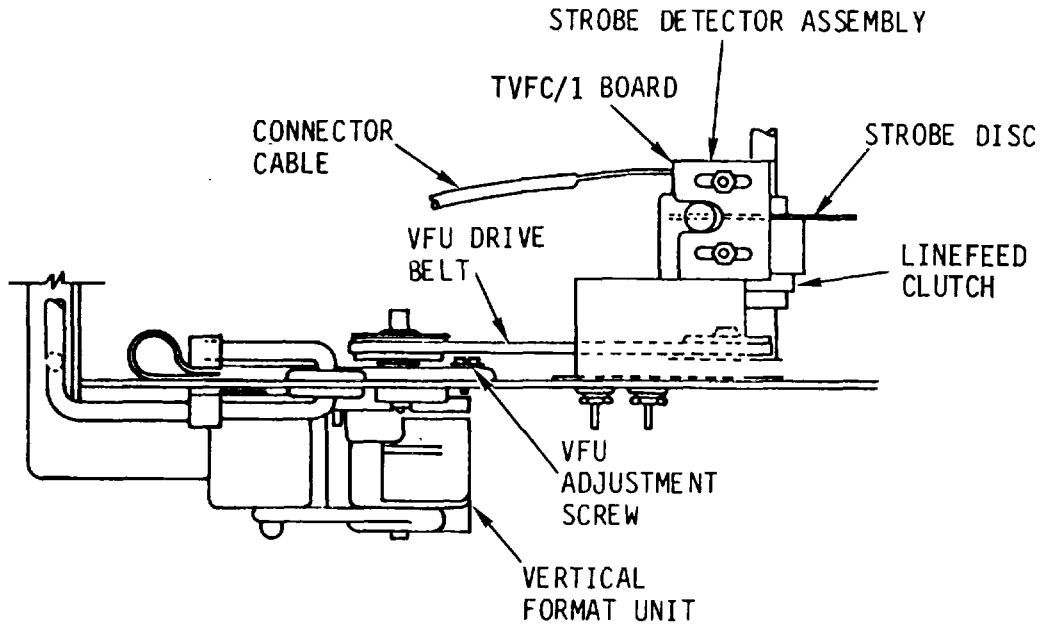

figure 2-10. Slew Strobe Assembly Paper Advance
(3) The paper is advanced rapidly (slewed) by the slew strobe assembly (fig. 2-10). This assembly consists of a strobe disc attached to the right side of the linefeed clutch and a strobe detector bracket-mounted to the left side frame. The strobe detector contains a small printed wire board called the TVFC/1 board. It